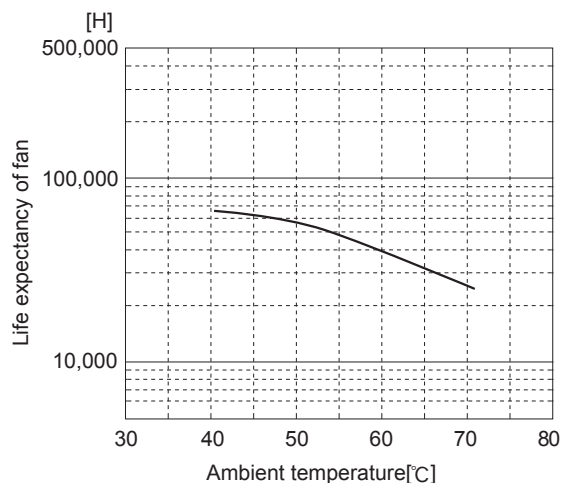

Fig.5.5 Life expectancy of fan
■ Fans should be exchanged on a regular basis because their life expectancy (R (t) = 90%) vary depending on use conditions as shown in Fig.5.5. Please see "Optional Parts" for details about fan units.